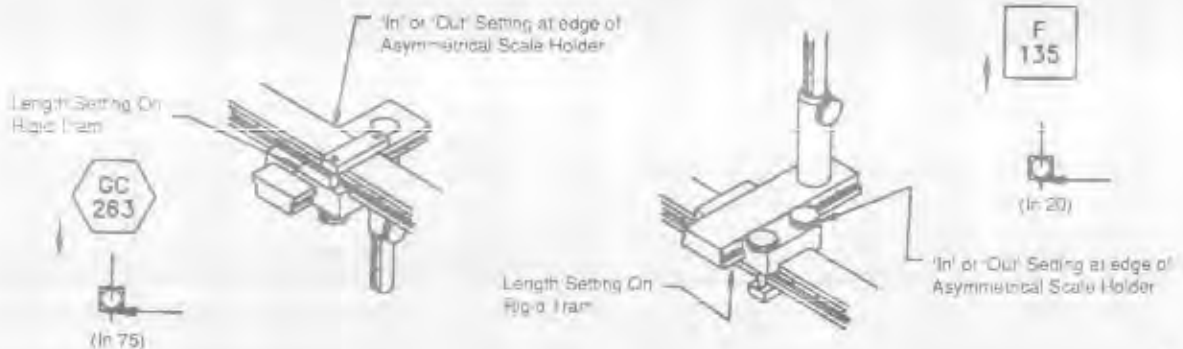

Figure 6
F. Positions measured forward of overhead bar are measured with rigid tram. Arrow to lower left of all symbols relating to rigid tram indicates whether vertical scale is to point up \uparrow or down \downarrow from rigid tram. Within these symbols are fitting requirements for vertical scale and vertical dimensions. Length settings for scale holder on rigid tram \longleftrightarrow are found just below vehicle drawing. (See Figure 6.)
G. A \square symbol found in length setting line for rigid tram \longleftrightarrow indicates use of asymmetrical scale holder is necessary. Below this symbol will be a set of brackets (). Within these brackets is direction (in or out) and setting of asymmetrical scale holder. To use asymmetrical scale holder on rigid tram, remove standard vertical scale holder and install asymmetrical holder in the direction indicated. (See Figure 6.)